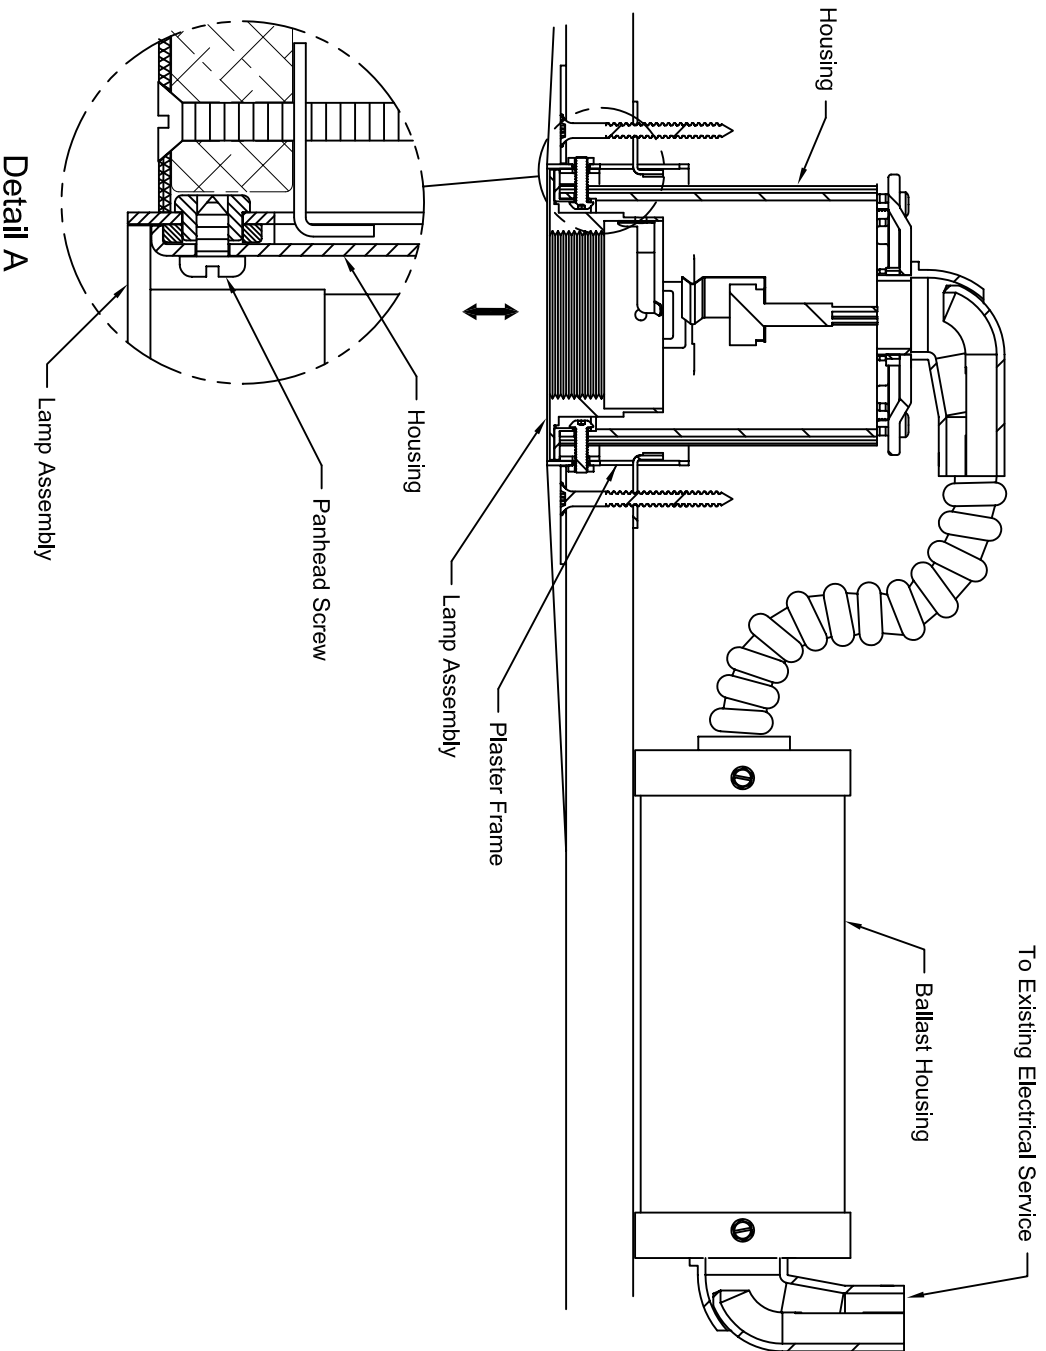

Figure 4
3. Remove two (2) Short Panhead Screws from inside of Housing/Plaster Frame Assembly. See Fig. 4, Detail A. Retain Screws for re-installation.
5. Rotate Ballast Housing 90° and, with it resting on Inside of Ceiling, push to side to clear Plaster Frame in Ceiling. See Fig. 4.
1. Insert Housing into Plaster Frame and retain to Plaster Frame using two (2) Short Panhead Screws removed earlier. See Fig. 4, Detail A. Do NOT overtighten Screws!
2. Install Lamp Assembly into Housing until it Seats in Housing. See Fig. 4.